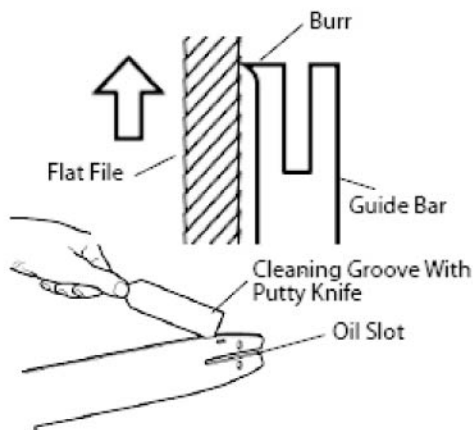

Fig.14
2. Remove sawdust from guide bar groove periodically. Use putty knife or wire (See Fig.14).